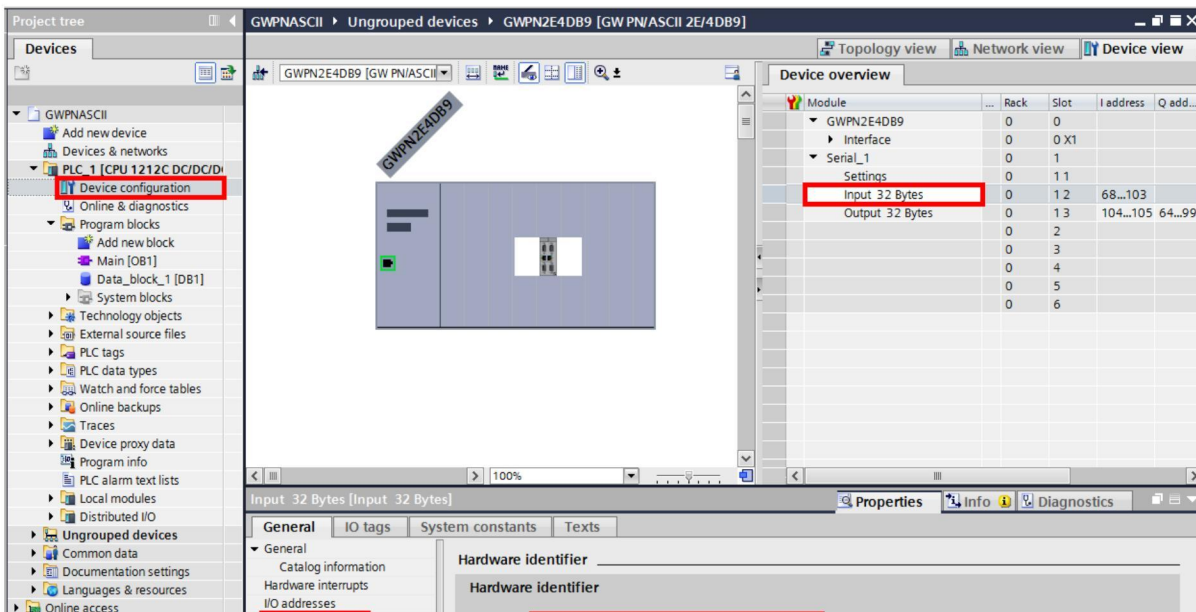

Figure 29 Hardware identifier
13. Add a DPWR\_DAT instruction. The "LADDR" field is the hardware identifier of the Serial Output block, similar to the DPRD\_DAT instruction (see Figure 29). The "RECORD" field is the entire output buffer from the data block.